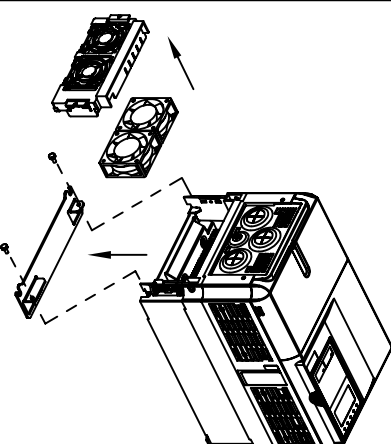

FIGURE 3-1
- 1) REMOVE LOWER MOUNTING BRACKET BY REMOVING (2) SCREWS. THIS PART IS NOT NEEDED WITH RING ATTACHMENT. -SEE FIGURE 3-1